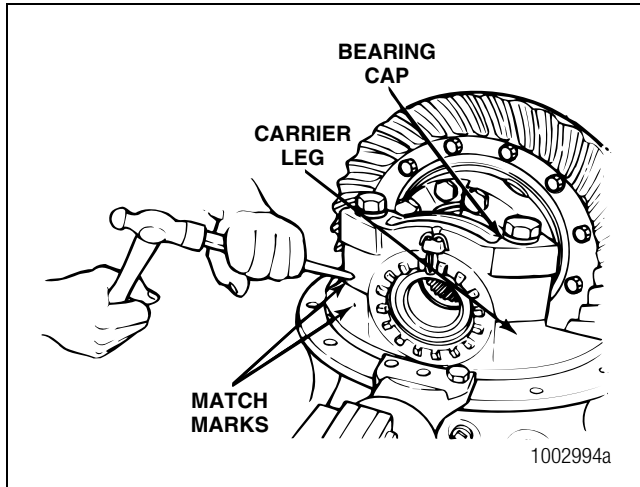

Figure 3.11
4. Mark one carrier leg and bearing cap to correctly match the parts during carrier assembly. Mark the parts using a center punch and hammer. Figure 3.11.